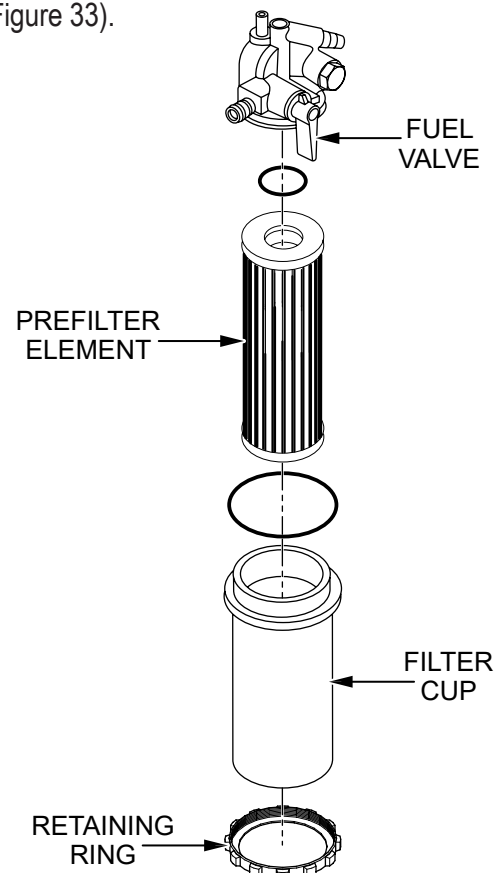

Figure 33. Fuel Prefilter Maintenance
1. Place the **fuel valve** in the **CLOSED** position (Figure 33).
2. Unscrew the **retaining ring** and remove the **filter cup** and **prefilter element** (Figure 33).